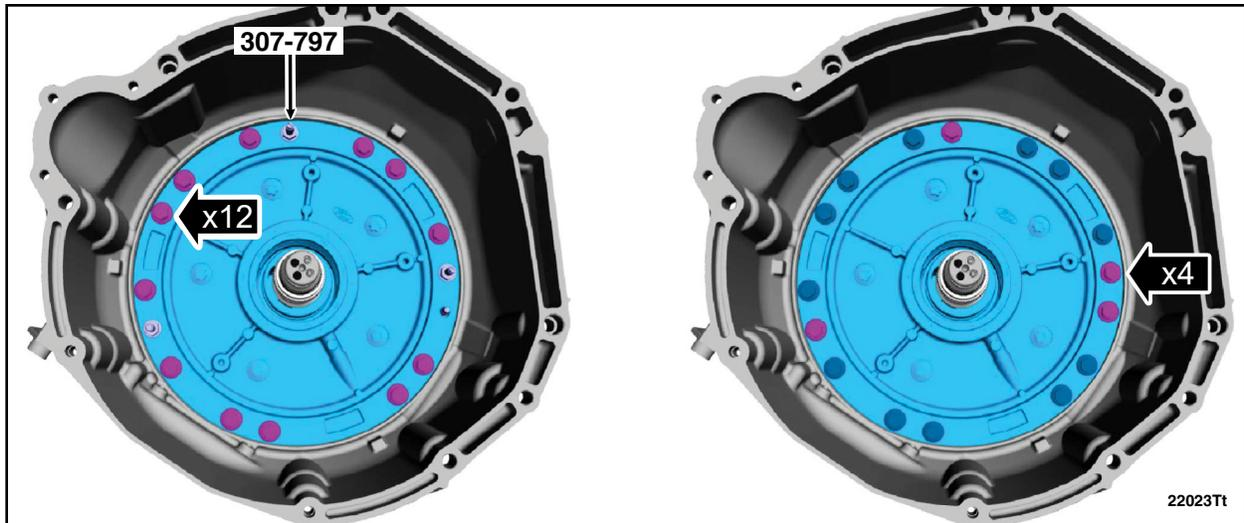

FIGURE 55
64. With the Special Service Tool: 307-797 Installer, Alignment Studs (3) & Alignment Pin (All 10R) installed, hand tight the front support bolts in a crisscross pattern. Then remove the special tools and install the front support bolts hand tight. See Figure 55.